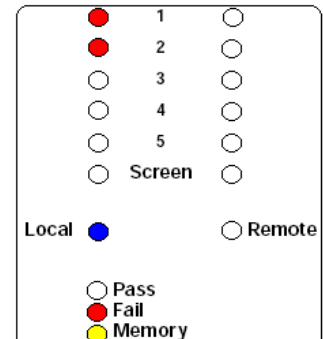

Fig 14. SHORT to an adjacent Pin.
a) A short was found, on the lower connector, where no connection existed before (Fig14.)